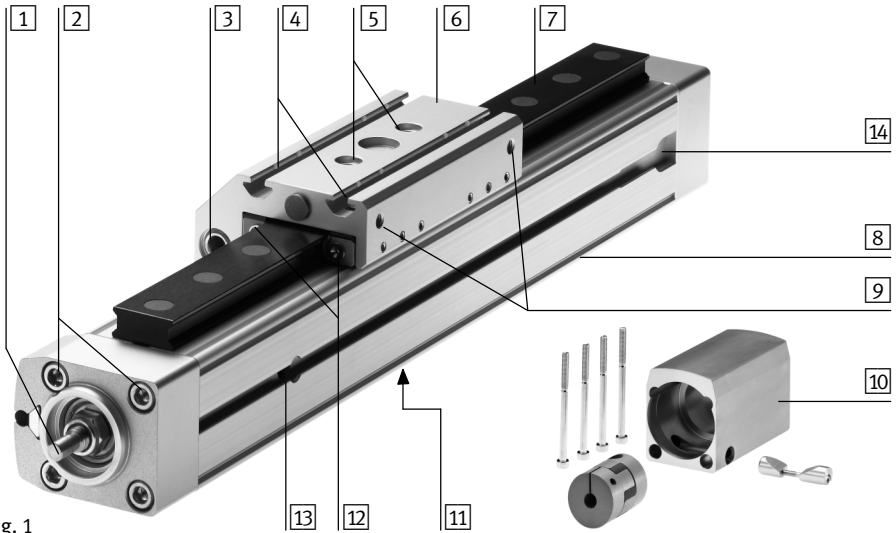

Fig. 1
- On the slide: With slot nuts NSTL-... in the slots (4) in Fig. 1).
- On the slide: With centring sleeves/pins (→ 11 Accessories) on the centring recesses/threads (5) in Fig. 1).